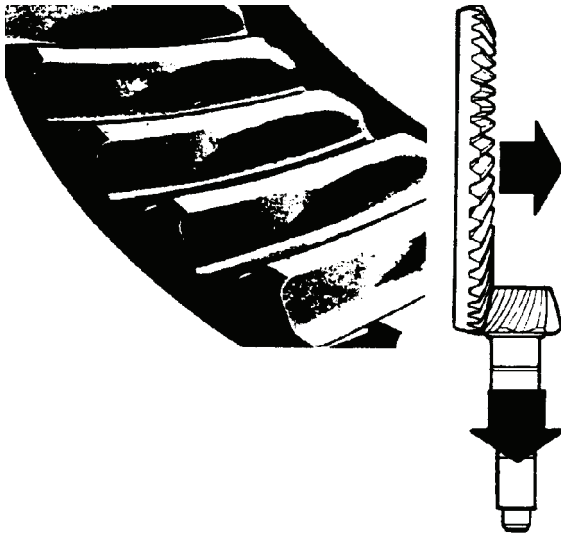

Figure 79.
- (2) Slight outward movement of hypoid gear may be necessary to maintain correct backlash .010" – .020" (.255 mm – .510 mm).
- (3) A low contact indicates pinion is too deep. Set the pinion to the correct depth by decreasing thickness of shim between pinion inner bearing cup and carrier. Refer to Figure 79.